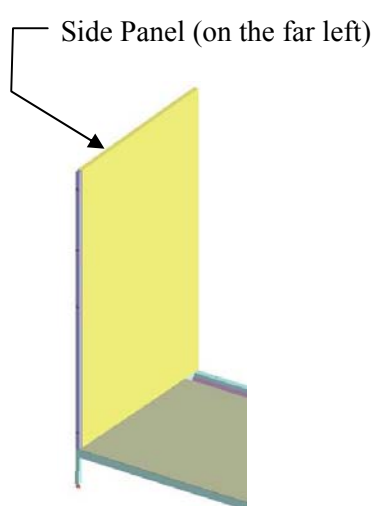

Figure 15
1. Set the first Side Panel (with King Post attached) on the left side of the first floor. Be sure the bottom of the panel slopes from the front to back of the Kennel. Have a helper hold it in place (**Figure 15**).